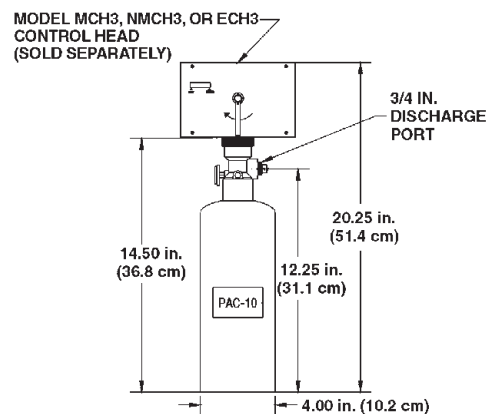

Figure 2-8. Model PAC-10 Pneumatic Actuating Cylinder.
The Model PAC-10 is a pneumatic actuating cylinder that can actuate a maximum of ten (10) agent cylinders simultaneously. The Model PAC-10 includes a DOT 4BA350 cylinder pressurized with dry nitrogen to 350 psig @ 70° F. (24.1 bar @ 21 °C), a brass valve with pressure gauge, and a wall mounting bracket. A Model MCH3, NMCH3, or ECH3 control head must be purchased separately and connected to the PAC-10 to open the valve. See **Figure 2-8**.